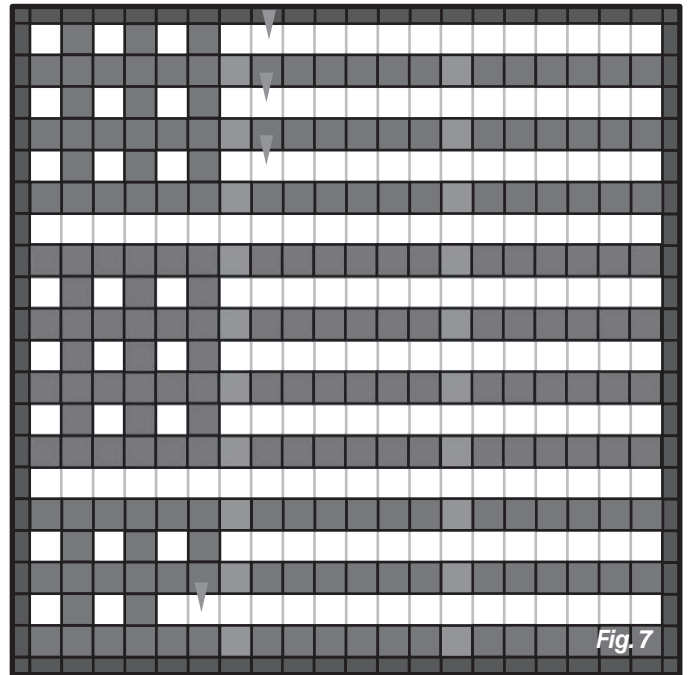

Fig. 7
- The locking mechanism on each edge of the tile should be engaged with the adjacent tile forcing the tile to buckle upwards. Once the locks are engaged, force the tile flat by applying downward pressure onto the tile (**Fig. 7**).
Once every other row of tile has been installed and compressed into place, begin installing every other row of tile in the opposite direction (Fig. 7), using the same process as described in Section 'F'.